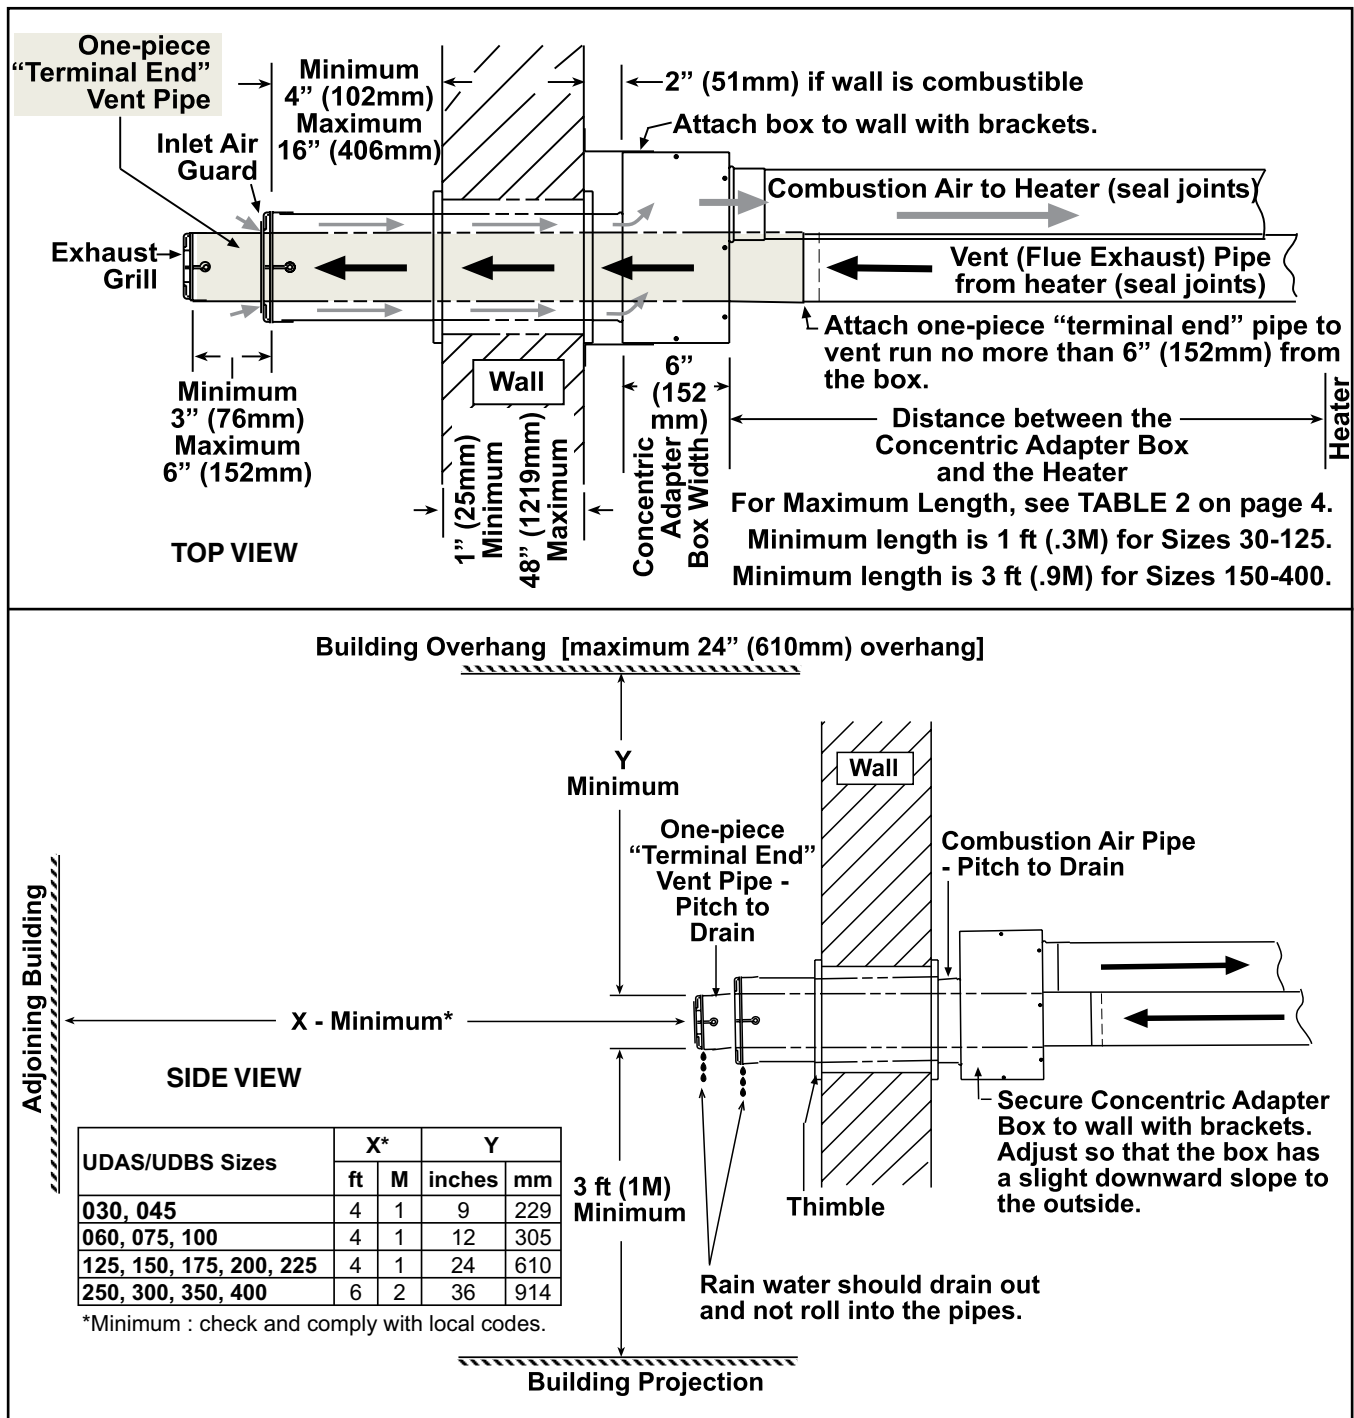

Figure 13. Option CC6 Installation
6. Secure concentric adapter box to wall (see Figure 13):
- a. Position inlet guard over end of combustion air pipe in accordance with Figure 13.
- a. Refer to Figure 13 to determine lengths of each pipe segment and to calculate total length required.
- a. Position exhaust grill over end of vent pipe in accordance with Figure 13.
11. Verify compliance with Figure 13 and with all specifications listed in Venting and Combustion Air Requirements section and subsections.